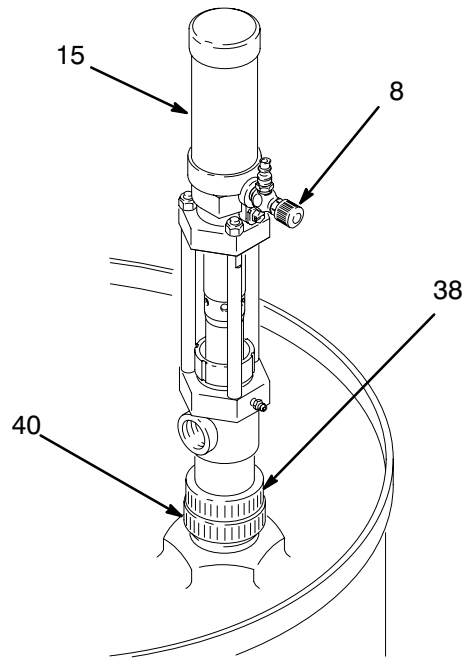

Fig 1
1. Screw the bung adapter (40) and pump tightly into the drum cover. See Fig 1.
2. Tighten the retainer (38) firmly to complete the airtight seal.
4. Install an air regulator in the feed pump air inlet to control pump speed. To install, remove the air valve (8) and use suitable adapters for the regulator and pin fitting. Use thread sealer on male threads.